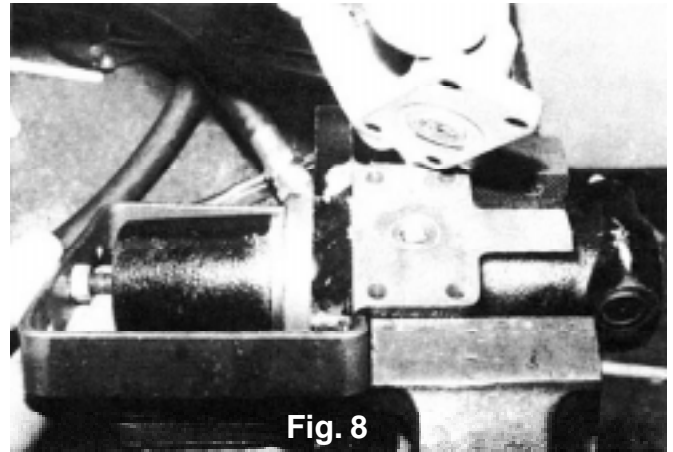

Fig. 8
7. With piston still depressed, install compensating spring (4) and compensating valve (3). Set adapter block (or reservoir) in place. The master cylinder casting should preferably be held in a horizontal position for this operation. Start the four self-threading bolts (9) by hand to prevent cross threading and torque to 150-200 inch pounds. **Care should be taken that the compensating valve is properly located before the adapter block or reservoir is located and snugged down.** (Fig. 8) The piston may now be released by removing the retaining tool.